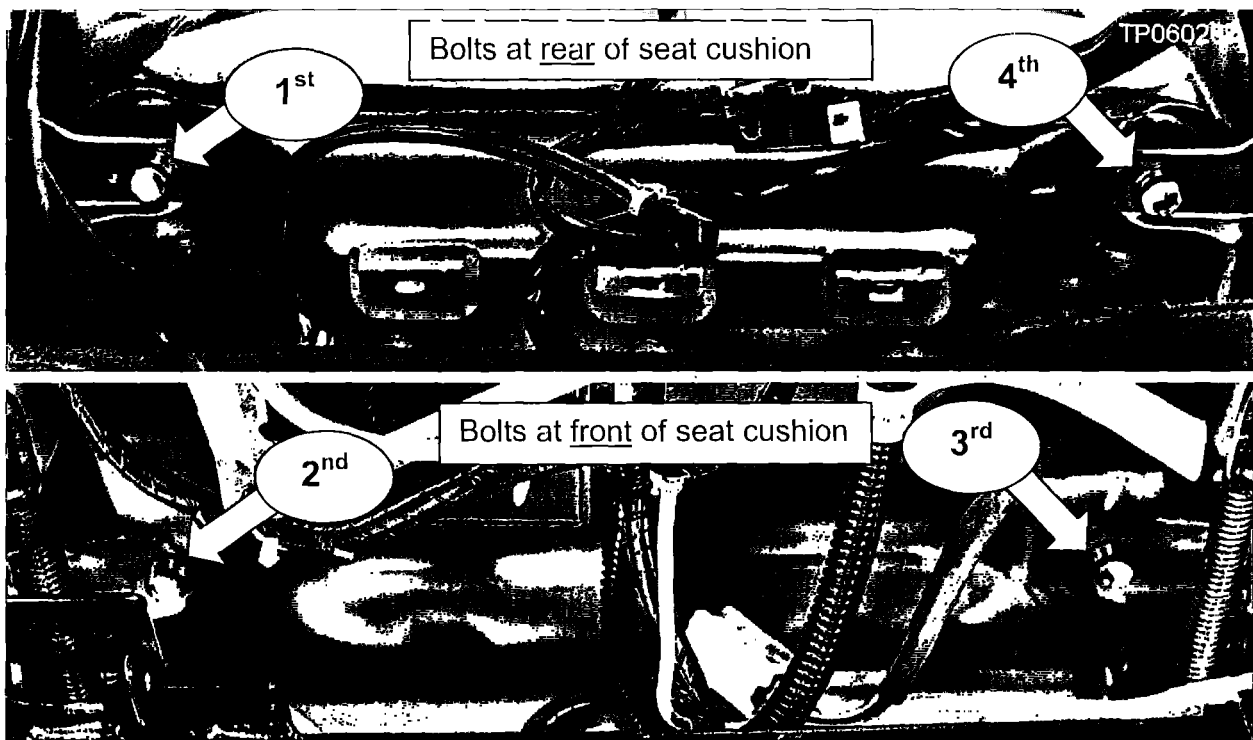

Figure 19
25. Install the bolts (see Figure 19).
- b. Tighten and torque the 4 bolts in the order shown in Figure 19.